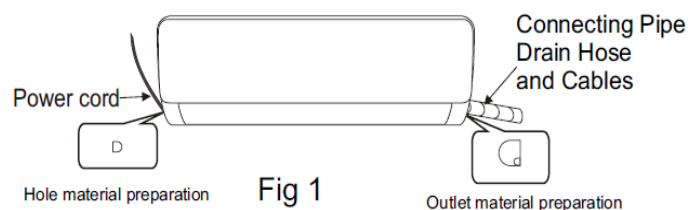
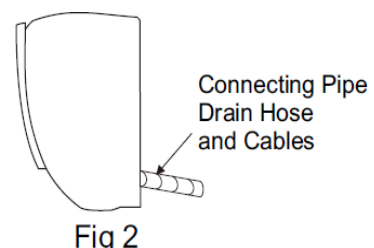

Fig 1
Fig 2
1. Depending on the position of the unit, the piping may be routed sideways from the left or the right ( Fig 1 ), or vertically from the back( Fig 2 )(depending on the pipe length of the indoor unit). In the case of sideways routing, cut off the outlet cutting stock of the opposite side.